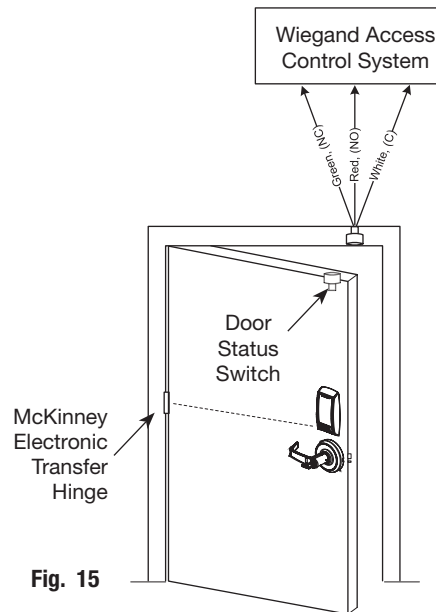

**Fig. 14**
- a. Tighten the inside escutcheon securely to the mounting plate with the Phillips flat head machine screws provided (Fig. 14).